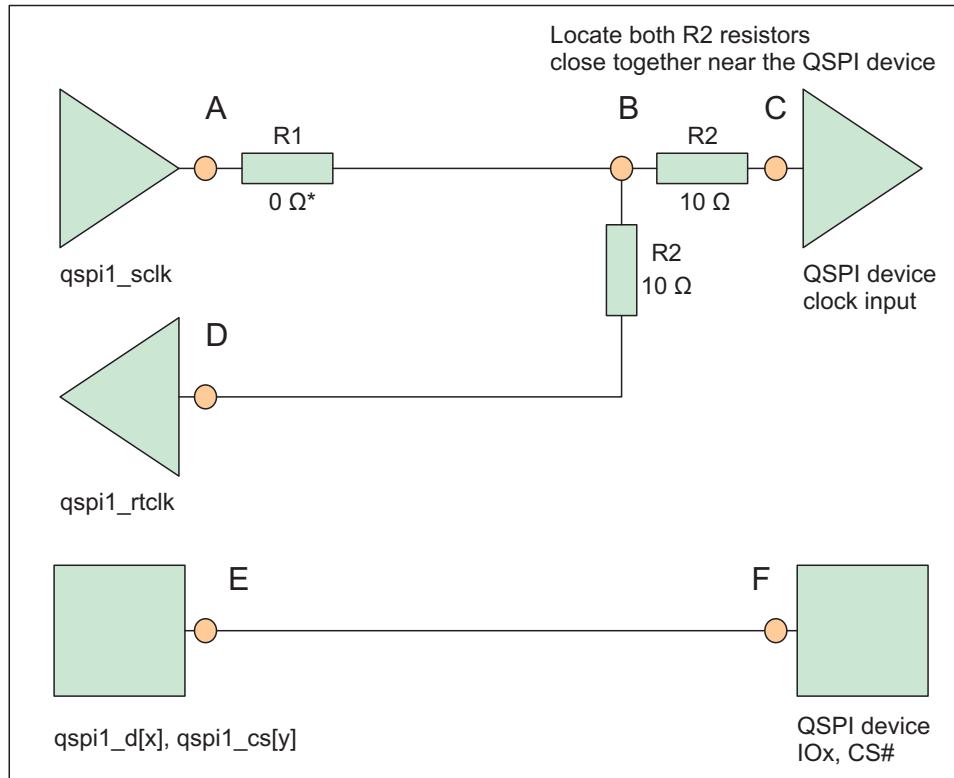

图 8-29. QSPI Interface High Level Schematic
- 50  $\Omega$  PCB routing is recommended along with series terminations, as shown in 图 8-29.